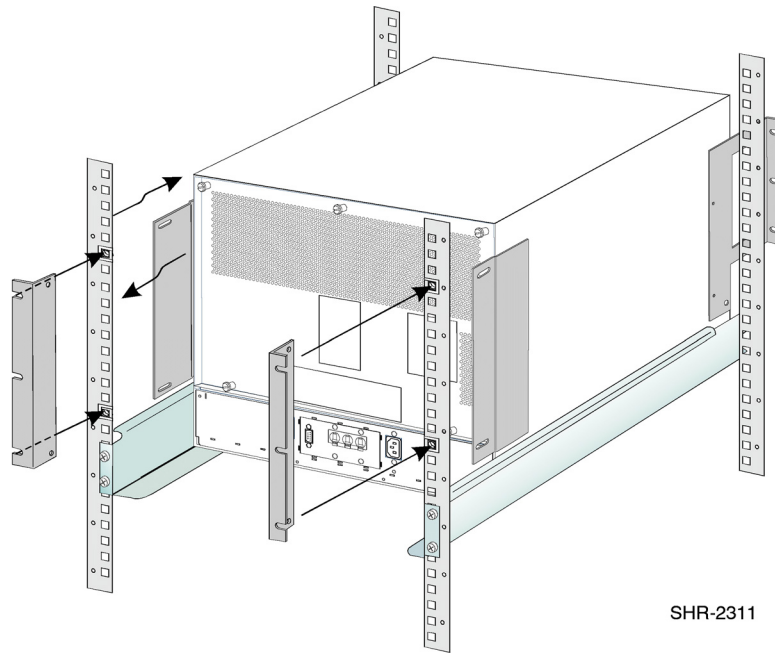

Figure 14: Securing the rear angle brackets
3. Loosely attach the rear angle bracket to the rack rail with the two panhead Phillips screws provided, as shown in Figure 14.
4. Repeat step 2 and step 3 for the corresponding rear angle bracket, as shown in Figure 14.